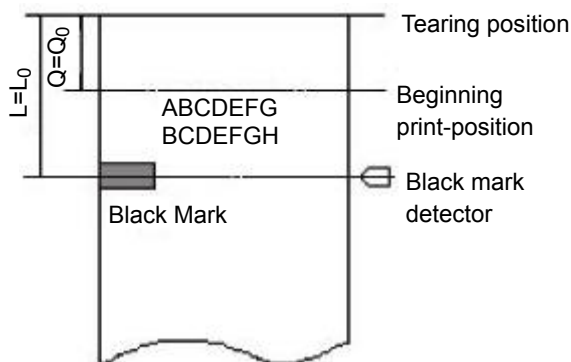

Figure 2
1. When the distance L between the tearing position and the black mark position is the same with the inherent mechanical value L_0 of the printer, and the distance Q between the tearing position and the beginning print-position is the same with the inherent mechanical value Q_0 of the printer (shown as Figure 2), all the offset value set by "GS (F" command is 0.